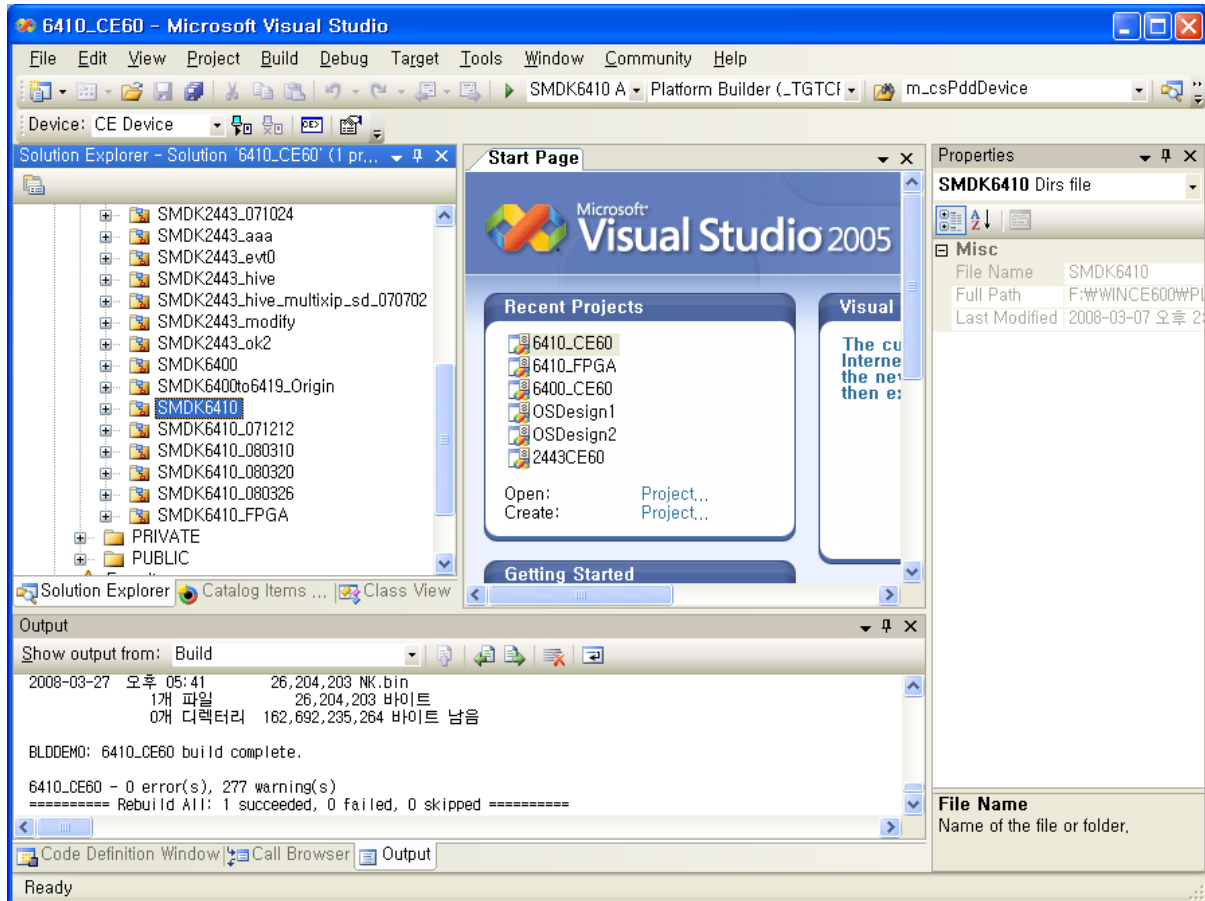

Figure 4-14 After Building the OS Image
14. After completion of build process, following messages appear as shown in figure 4-14. EBOOT.nb0, EBOOT.bin, block0imag.nb0, NK.bin and NK.nb0 are now available in X:\WINCE600\OSDesigns \[OS Design Name] \[OS Design Name]\RelDir\SMDK6410_ARMV4I_Release directory.